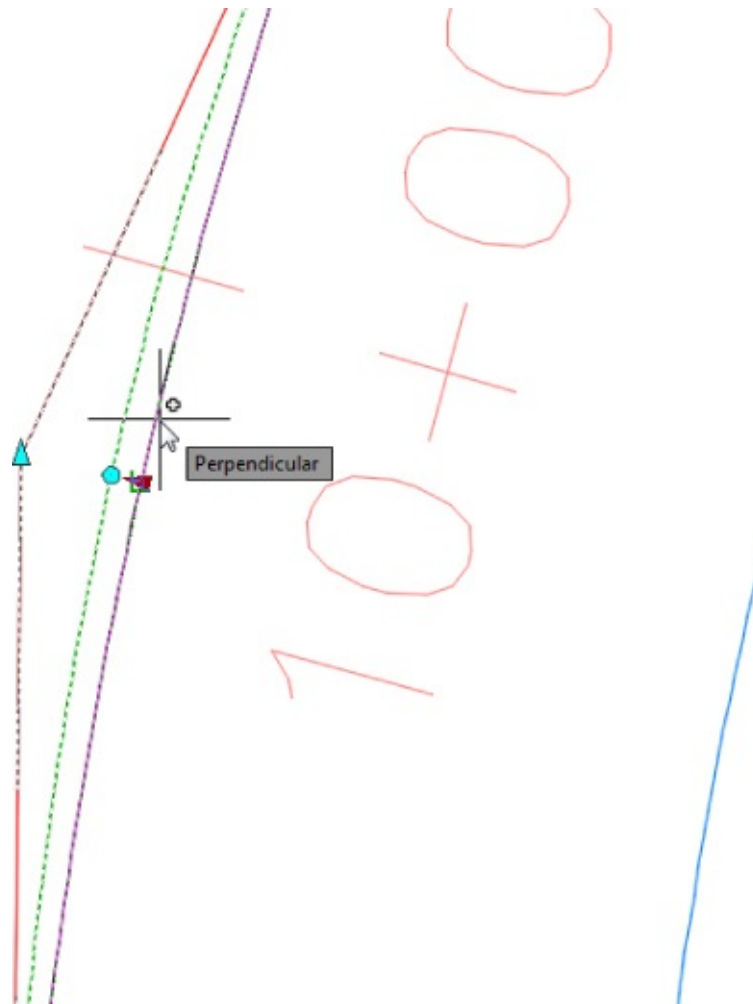

Figure 6.30 Grip-editing the ROAD D curve
6. Select the triangular grip shown in Figure 6.30, and use a Perpendicular Osnap to place it on the original polyline arc outline. When the triangular grip is used, the radius is changed without changing the PI.